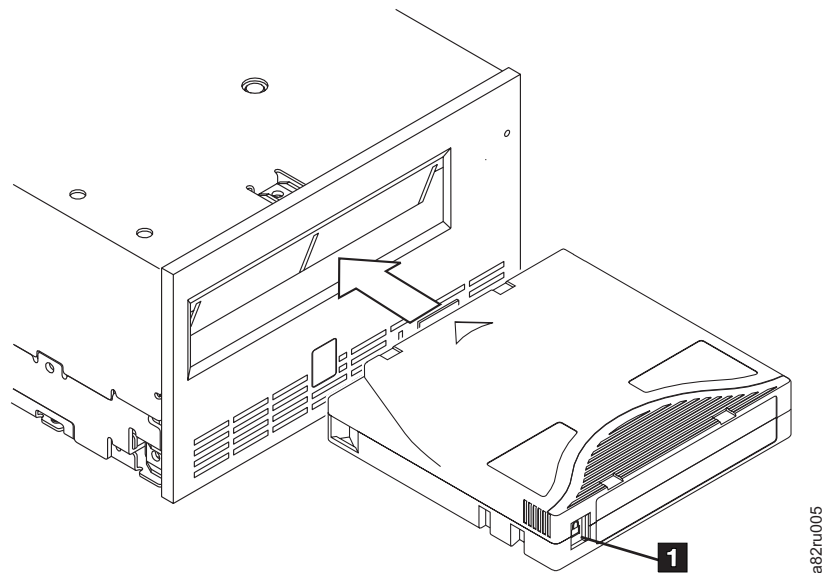

Figure 7. Inserting a cartridge into the drive
3. Grasp the cartridge so that the write-protect switch faces you (see **1** in Figure 7).